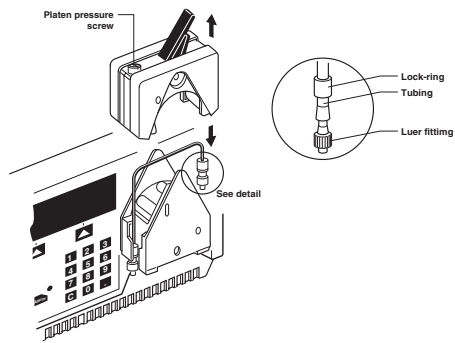

Fig. 1. BioLogic LP system setup. (Use orange lock rings and medium size barb fittings with 1.6 mm tubing.)
1. Install 1.6 mm inner diameter (ID) tubing in the pumphead. Adjust the platen pressure screw (on pumphead) using a screwdriver or coin. Turn the screw counterclockwise as far as it will go, then turn clockwise three full turns. Assemble with fittings and lock rings as shown in Figure 1.